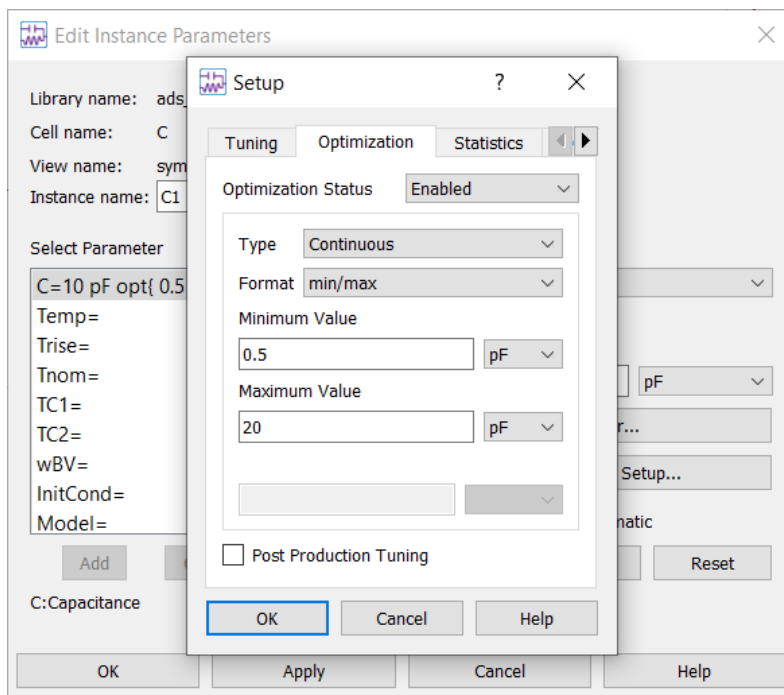

Figure 35. Optimization Setup window
1. Edit (double click) the input capacitor (C1). Click the **Tune/Opt/Stat/DOE Setup** button. This window is shown in Figure 35.